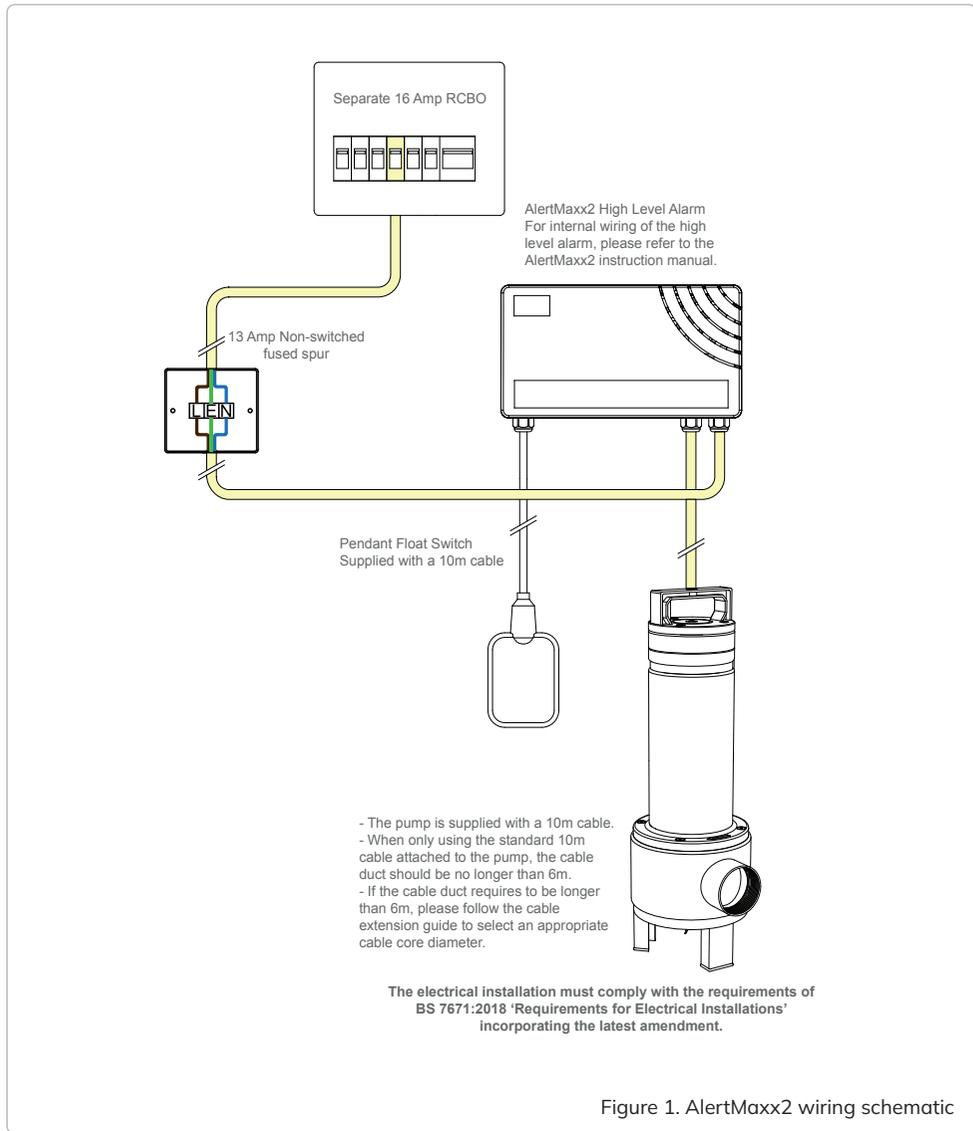

Figure 1. AlertMaxx2 wiring schematic
2. Using the wiring schematic (figure 1), feed the mains power cable through the relevant cable gland and connect the power cable to the corresponding terminal block on the main PCB (figure 2).